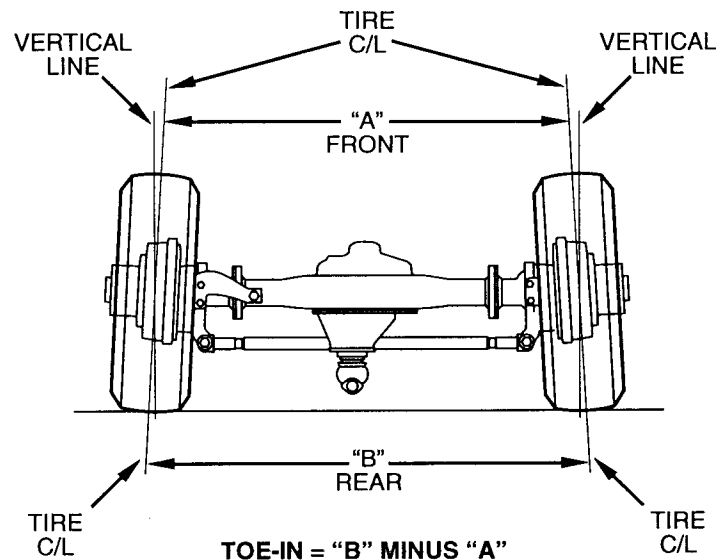

Figure 4 Measure Toe-in
2. Measure the line on the axle centerline at front of the tires. (See Figure 4).
4. Compare measurements. Front measurement (A) should be the same or 1/8" shorter than rear measurement (B).